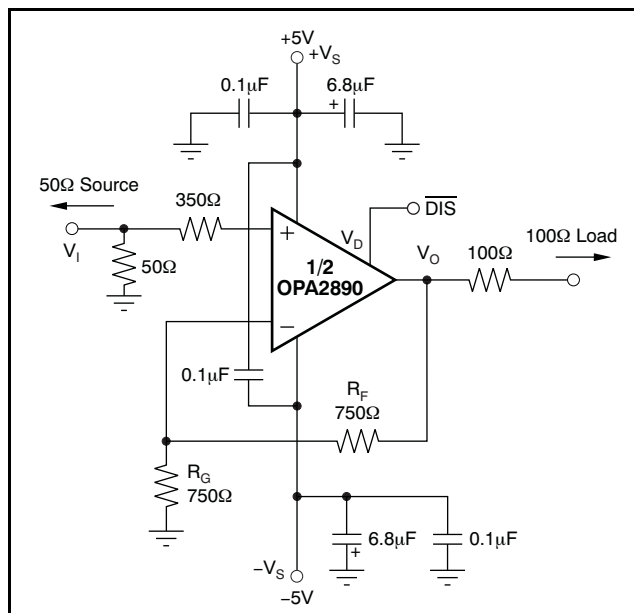
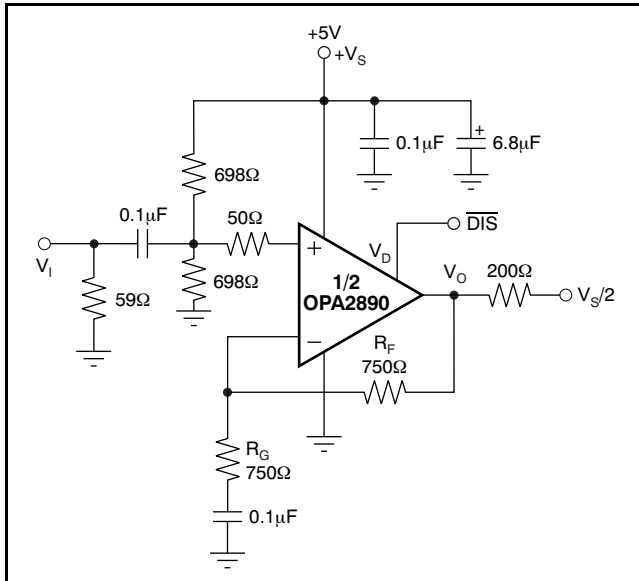
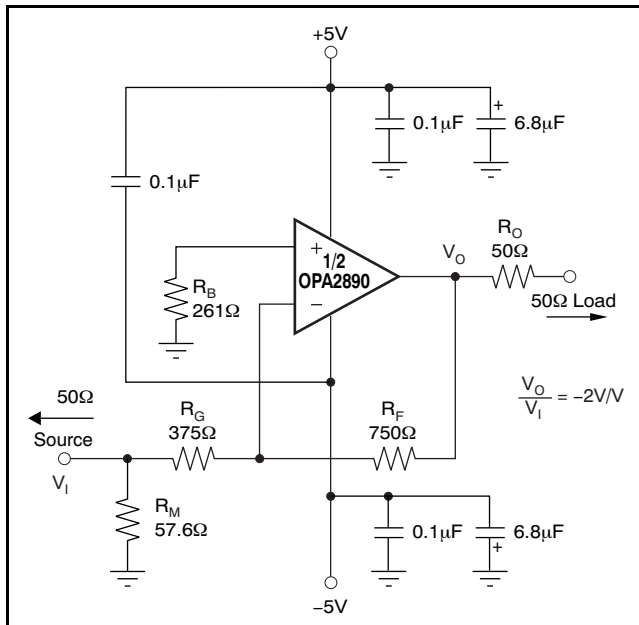

Figure 49. DC-Coupled, G = +2V/V, Bipolar Supply, Specification and Test Circuit
Figure 50. DC-Coupled, $G = +2V/V$, Single-Supply, Specification and Test Circuit
Figure 59. Gain of $-2V/V$ Example Circuit
At $T_A = +25^\circ\text{C}$, $G = +2V/V$, $R_F = 750\Omega$, and $R_L = 200\Omega$, unless otherwise noted. See Figure 49.
At $T_A = +25^\circ C$, $G = +2V/V$, $R_F = 750\Omega$, and $R_L = 200\Omega$, unless otherwise noted. See Figure 49.
Figure 49 shows the DC-coupled, gain of +2V/V, dual power-supply circuit configuration used as the basis of the ±5V Electrical Characteristics and Typical Characteristics. This illustration is for one channel; the other channel is connected similarly. For test purposes, the input impedance is set to 50Ω with a resistor to ground and the output impedance is set to 200Ω. Voltage swings reported in the Electrical Characteristics are taken directly at the input and output pins, while output powers (dBm) are at the matched 50Ω load. For the circuit of Figure 49, the total effective load is 200Ω || 1.5kΩ. The disable control line (MSOP-10 package only) is typically left open for normal amplifier operation. Two optional components are included in Figure 49. First, an additional resistor (350Ω) is included in series with the noninverting input. Combined with the 25Ω dc source resistance looking back towards the signal generator, this resistor gives an input bias current cancelling resistance that matches the 750Ω source resistance seen at the inverting input (see the DC Accuracy and Offset Control section). In addition to the usual power-supply decoupling capacitors to ground, a 0.1μF capacitor is also included between the two power-supply pins. In practical printed circuit board (PCB) layouts, this optional capacitor typically improves the 2nd-harmonic distortion performance by 3dB to 6dB.
Figure 50 illustrates the ac-coupled, gain of +2V/V, single-supply circuit configuration used as the basis of the +5V Electrical Characteristics and Typical Characteristics. Though not a rail-to-rail design, the OPA2890 requires minimal input and output voltage headroom compared to other very wideband voltage-feedback op amps. It delivers a 3V_{PP} output swing on a single +5V supply with greater than 80MHz bandwidth. The key requirement of broadband single-supply operation is to maintain input and output signal swings within the usable voltage ranges at both the input and the output. The circuit of Figure 50 establishes an input midpoint bias using a simple resistive divider from the +5V supply (two 698Ω resistors). Separate bias networks would be required at each input. The input signal is then ac-coupled into the midpoint voltage bias. The input voltage can swing to within 1.5V of either supply pin, giving a 2V_{PP} input signal range centered between the supply pins. The input impedance matching resistor (59Ω) used for testing is adjusted to give a 50Ω input load when the parallel combination of the biasing divider network is included.
A good rule of thumb is to target the parallel combination of R_F and R_G (see Figure 49) to be less than approximately 400Ω. The combined impedance $R_F \parallel R_G$ interacts with the inverting input capacitance, placing an additional pole in the feedback network and thus, a zero in the forward response. Assuming a 2pF total parasitic on the inverting node, holding $R_F \parallel R_G < 400\Omega$ keeps this pole above 160MHz. By itself, this constraint implies that the feedback resistor R_F can increase to several kΩ at high gains. This increase in resistor size is acceptable as long as the pole formed by R_F and any parasitic capacitance appearing in parallel is kept out of the frequency range of interest.
Voltage-feedback op amps exhibit decreasing closed-loop bandwidth as the signal gain increases. In theory, this relationship is described by the Gain Bandwidth Product (GBP) shown in the Electrical Characteristics. Ideally, dividing GBP by the noninverting signal gain (also called the Noise Gain, or NG) predicts the closed-loop bandwidth. In practice, this principle only holds true when the phase margin approaches 90°, as it does in high gain configurations. At low gains (increased feedback factors), most amplifiers exhibit a more complex response with lower phase margin. The OPA2890 is compensated to give a slightly peaked response in a noninverting gain of 2V/V (see Figure 49). This compensation results in a typical gain of +2V/V bandwidth of 100MHz, far exceeding that predicted by dividing the 60MHz GBP by 2. Increasing the gain causes the phase margin to approach 90° and the
The frequency response in a gain of +2V/V may be modified to achieve exceptional flatness simply by increasing the noise gain to 2.5V/V. One way to modify the response without affecting the +2V/V signal gain, is to add an 1.5kΩ resistor across the two inputs, as illustrated in the circuit of Figure 49. A similar technique may be used to reduce peaking in unity-gain (voltage follower) applications. For example, by using a 750Ω feedback resistor along with a 750Ω resistor across the two op amp inputs, the voltage follower response is similar to the gain of +2V/V response of Figure 50. Reducing the value of the resistor across the op amp inputs further limits the frequency response due to increased noise gain.
The OPA2890 is a general-purpose, wideband, voltage-feedback op amp; therefore, all of the familiar op amp application circuits are available to the designer. Inverting operation is one of the more common requirements and offers several performance benefits. See Figure 59 for a typical inverting configuration where the I/O impedances and signal gain from Figure 49 are retained in an inverting circuit configuration.
The second major consideration, touched on in the previous paragraph, is that the signal source impedance becomes part of the noise gain equation and influences the bandwidth. For the example in Figure 59, the R_M value combined in parallel with the external 50Ω source impedance yields an effective driving impedance of $50\Omega \parallel 57.6\Omega = 26.7\Omega$. This impedance is added in series with R_G for calculating the noise gain (NG). The resultant NG is 2.86V/V for Figure 59, as opposed to only 2V/V if R_M could be eliminated as discussed above. Therefore, the bandwidth is slightly lower for the gain of $-2V/V$ circuit of Figure 59 than for the gain of $+2V/V$ circuit of Figure 49.
signal reaches very high frequency or power levels, the 2nd harmonic dominates the distortion with a negligible 3rd harmonic component. Focusing then on the 2nd harmonic, increasing the load impedance improves distortion directly. Remember that the total load includes the feedback network; in the noninverting configuration (see Figure 49), this value is the sum of $R_F + R_G$, while in the inverting configuration it is only R_F . Also, providing an additional supply-decoupling capacitor (0.1μF) between the supply pins (for bipolar operation) improves the 2nd-order distortion slightly (3dB to 6dB). Operating differentially also lowers 2nd-harmonic distortion terms (see the plot on the front page).
Evaluating these two equations for the OPA2890 circuit and component values (see Figure 49) gives a total output spot noise voltage of 17.5nV/√Hz and a total equivalent input spot noise voltage of 8.7nV/√Hz. This result includes the noise added by the bias current cancellation resistor (350Ω) on the noninverting input. This total input-referred spot noise voltage is only slightly higher than the 8nV/√Hz specification for the op amp voltage noise alone. This result is the case as long as the impedances appearing at each op amp input are limited to the previously recommend maximum value of 400Ω. Keeping both ($R_F \parallel R_G$) and the noninverting input source impedance less than 400Ω satisfies both noise and frequency response flatness considerations. Because the resistor-induced noise is relatively negligible, additional capacitive decoupling across the bias current cancellation resistor (R_B) for the inverting op amp configuration of Figure 59 is not required.
The balanced input stage of a wideband voltage-feedback op amp allows good output dc accuracy in a wide variety of applications. The power-supply current trim for the OPA2890 gives even tighter control than comparable amplifiers. Although the high-speed input stage does require relatively high input bias current (typically 5µA out of each input terminal), the close matching between them may be used to reduce the output dc error caused by this current. The total output offset voltage may be considerably reduced by matching the dc source resistances appearing at the two inputs. This matching reduces the output dc error resulting from the input bias currents to the offset current times the feedback resistor. Evaluating the configuration of Figure 49, and using worst-case +25°C input offset voltage and current specifications, gives a worst-case output offset voltage equal to: